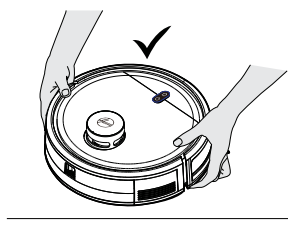

Fig. 19
**IMPORTANT:** Always make sure your device is switched off before maintenance. Always use two hands to lift and carry, and ensure the robot is held level. **[Fig. 19]**